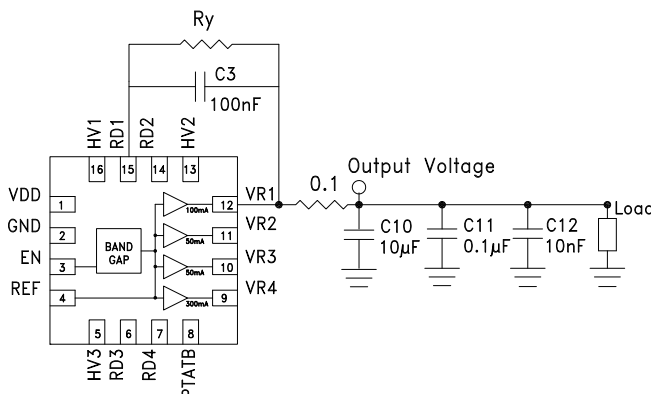

Figure 13. Recommended HMC1060LP3E configuration for supplying output voltage values less than default.[1]
The outputs of the HMC1060LP3E are configured to supply voltages less than the default values, down to 1.8 V minimum, by connecting a resistance ( $R_y$  in Figure 13) between pins  $VR_x$  and  $RD_x$  (where  $x = 1,2,3,4$ ). Figure 13 shows an example of configuring VR1 output. Other outputs are configured in exactly the same way (ie.  $R_y$  is added between VR2 & RD2, VR3 & RD3 and between VR4 & RD4).
2. To set VR1 = VR2 = VR3 = 1.8 V in with PTAT Mode disabled, external resistance Ry = 21 kΩ shown in Figure 13 is required.